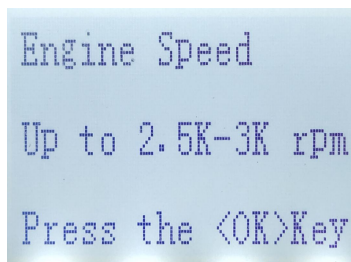

Figure 18
(2) Press OK key to enter, as shown in Figure 18: